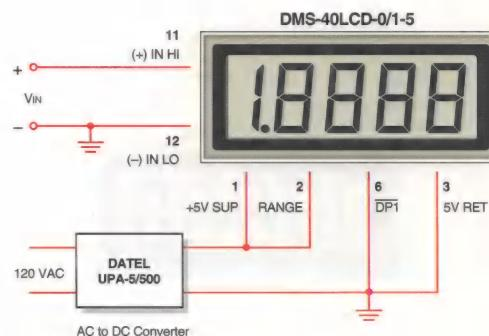

Figure 2. Single-Ended Input Configuration (5V-Powered Models)
1. Single-Ended Input Configurations: True single-ended measurements can only be made with 5V-powered meters. The circuit of Figure 2 avoids problems normally associated with ground loop currents. Separate ground runs should be used for 5V RETURN (pin 3) and (-) INPUT LO (pin 12).